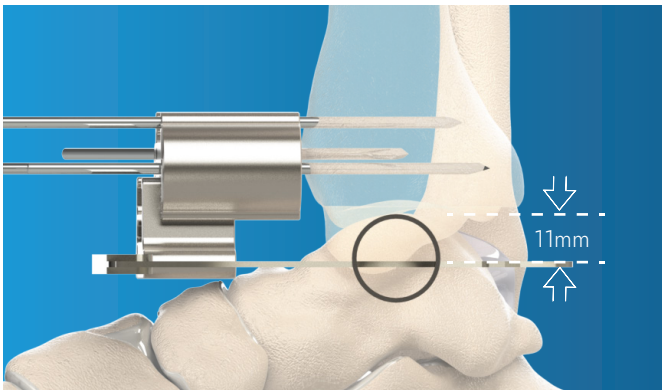

Figure 74. Talar Cut Trajectory and Nominal Resection
**Note:** Take care to check for proper alignment of the fluoroscopy arm during this step by confirming that the cylinder is a perfect circle on the lateral view (Figure 74).